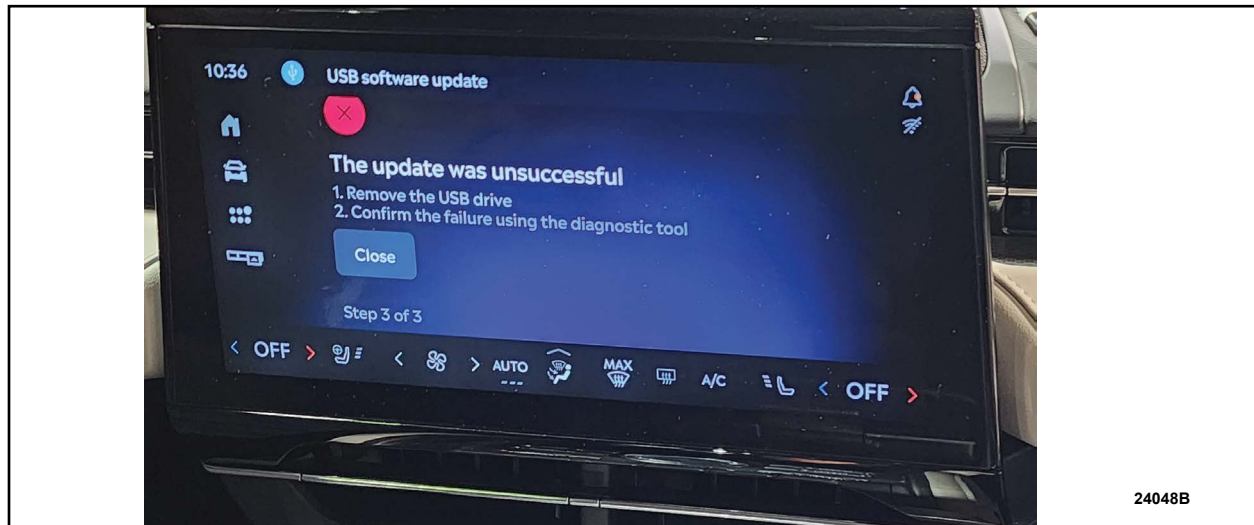

FIGURE 2
17. When the USB is removed from the vehicle an error screen may show. **Make sure to continue with the Field Service Action (FSA).** See Figure 2.